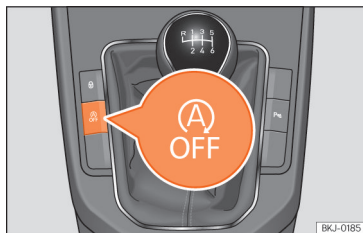

Fig. 87 Centre console: Start-Stop system button.
- To manually switch on/off the Start-Stop system, press the  button >>> **Fig. 87**